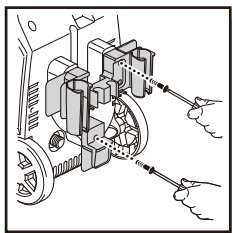

Fig. 1
- Install the accessory holder on the back of your BLUE CLEAN POWER WASHER (Fig. 1). You’ll notice where the accessory holder meets the back of the unit. You will see several male index posts which fit into female holes. The posts and holes enable easy placement of the accessory holder and easy tightening of the screws. Place the screws in the holes provided on the accessory holder and screw them in. Do not use a power screwdriver. When the screw is completely tight, give a small final clockwise twist of the screwdriver. Do not over tighten.
- Using one of the supplied screws, install the small electric power cord holder below the accessory holder so that the “L” - shaped holder faces downward. The electric power cord can now be wrapped around the accessory holder and the bottom “L” - shaped holder while your power washer is not in use (Fig. 1).